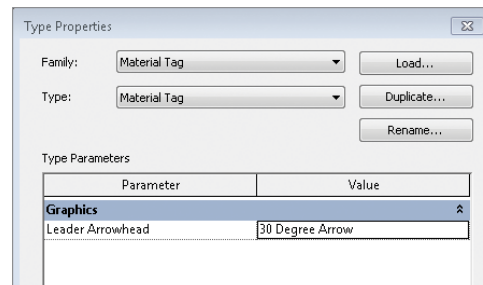

FIGURE 11.32 Adding an arrowhead to the tag
- Notice that by default the tag has no arrowhead. Select the tag, and choose Edit Type from the Properties palette. Here in the tag's Type Properties dialog, you can assign an arrowhead. Choose 30 Degree Arrow for the Leader Arrowhead property, and click OK (Figure 11.32).